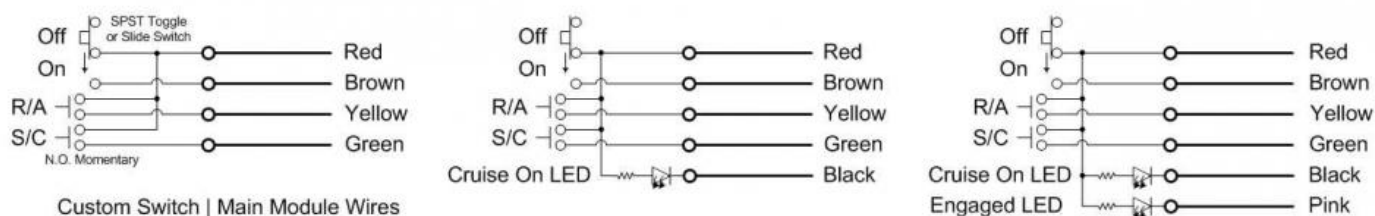

Figure 2 - Custom Switch Wiring Examples
**Note:** Unlike the examples in Figure 2, the Stock Control Switch won't allow the Cruise Control to turn on when the ignition is turned on. You have to push the On button to turn it On. In other words, you can't accidentally, or on purpose, leave the On / Off switch in the On position with this one like you could with the custom examples in Figure 2.
2. If you're using Control Switch #250-3593, a separate Engaged LED can still be wired to the Main Module if you want an Engaged LED somewhere else on the scooter as shown in right side example in Figure 2.